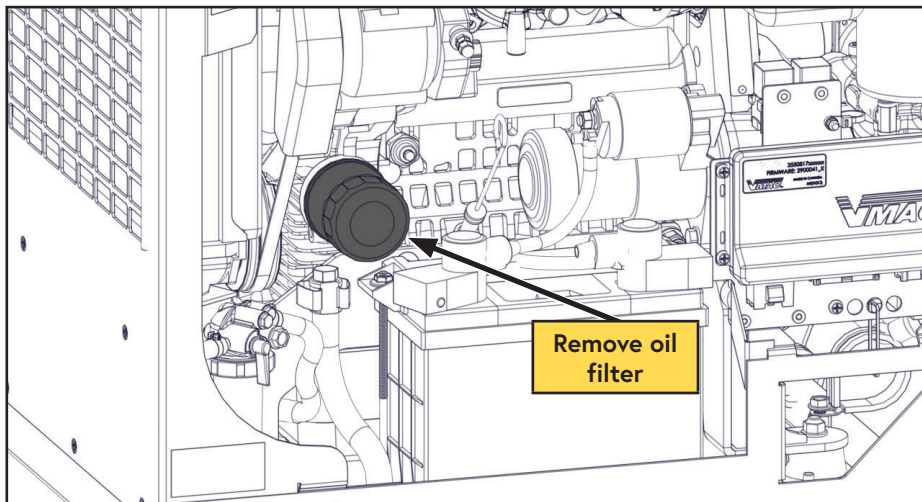

Figure 43 — Engine oil filter
- ☐ Remove the engine oil filter (Figure 43).